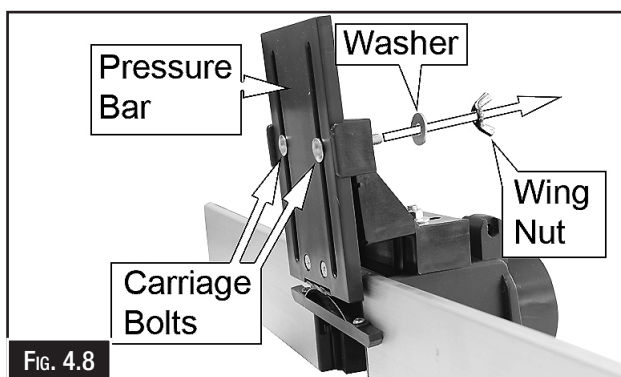

FIG. 4.8
3. Position the pressure bar and lock in position using the 2 carriage bolts, 2 washers and 2 wing nuts provided. (Fig. 4.8)